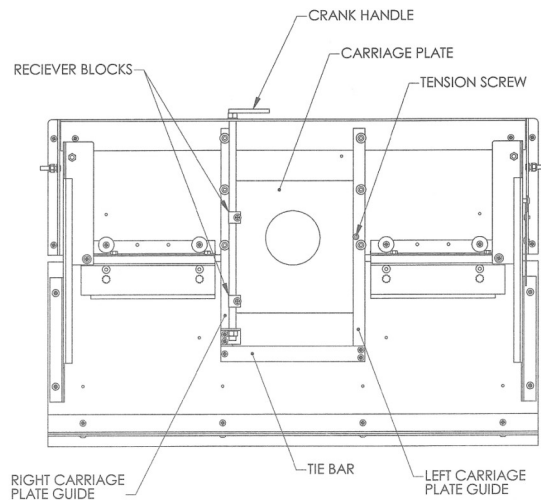

Figure 6. Router mounting
- Loosen the plastic plate tension screw on the left carriage plate guide (Figure 6).
- Position the router so that the depth adjustment of the router faces the cross feed crank handle (rear of the table) (Figure 6).
- Remove the (3) mounting screws from the tie bar using a Phillips head screwdriver (Figure 6).
- Remove the screw from each of the two receiver blocks attached to the carriage plate. DO NOT loosen the cross feed screws (Figure 6).